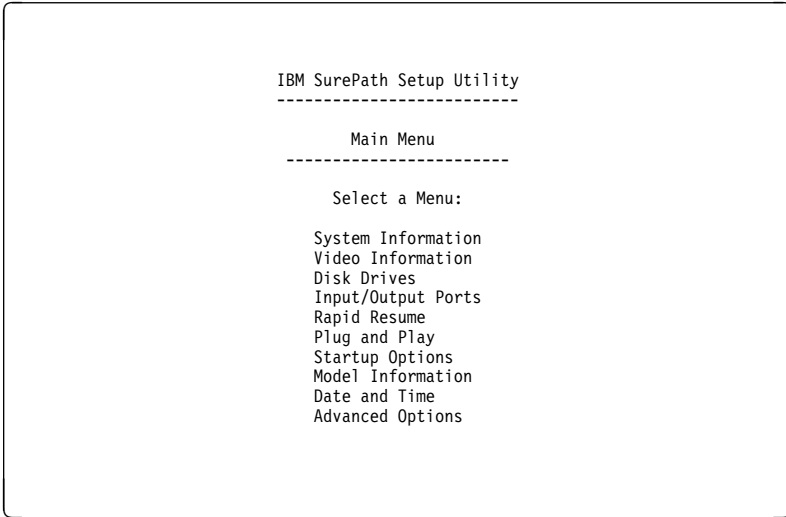

Figure 1-1. Setup Utility Screen
- If you have an error, the computer shows a popup window with an error code and description. Press **Enter** to get the Setup Utility screen (see Figure 1-1 on page 1-16).